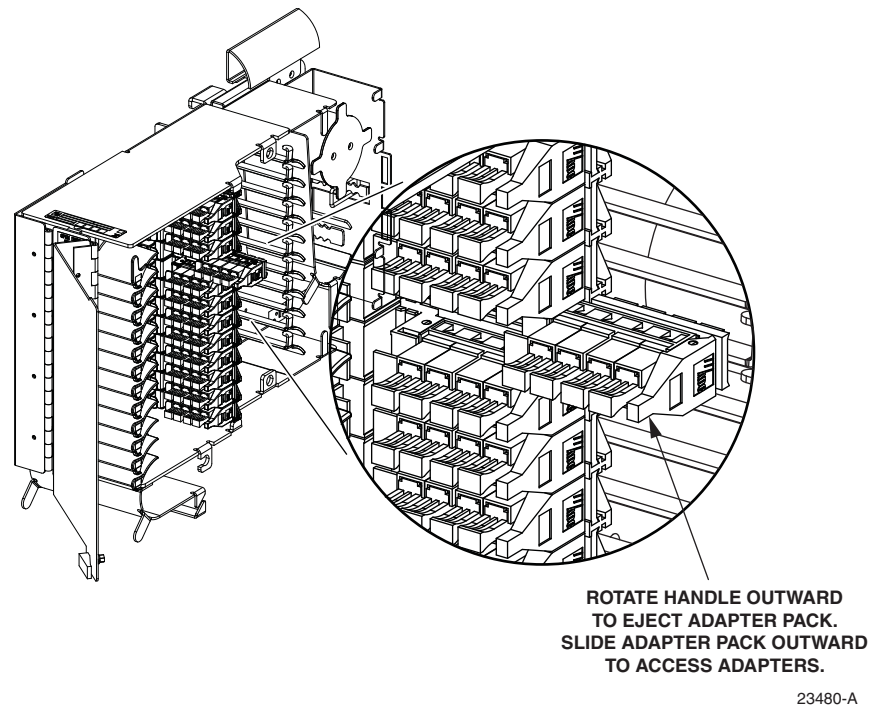

Figure 20. Accessing Adapter Packs in FTB
5. Slide the adapter pack outward to provide access to the rear side of the adapters as shown in Figure 20.